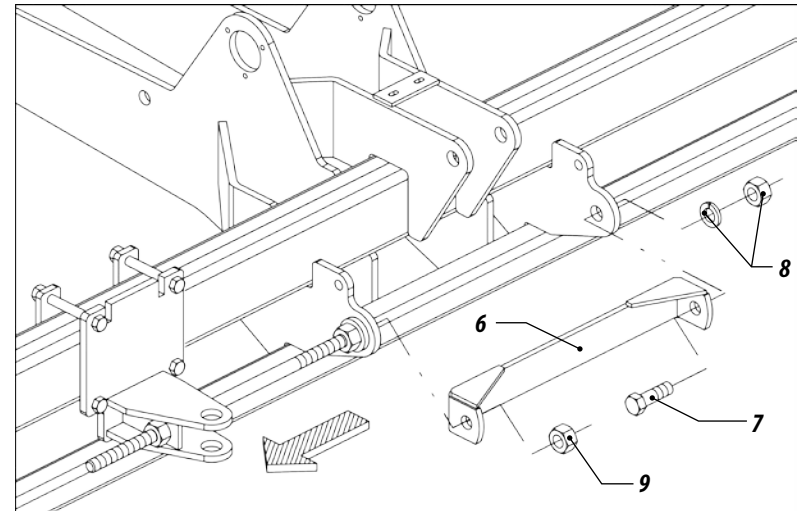

Figure 10
24 - With the coupler attached and the rod nuts loose, turn the rod until opens up to insert the header stabilizer bar (6), attaching it on one side with screw (7), washer and nut (8) and on the other side with the rod screw (9) figure 10.